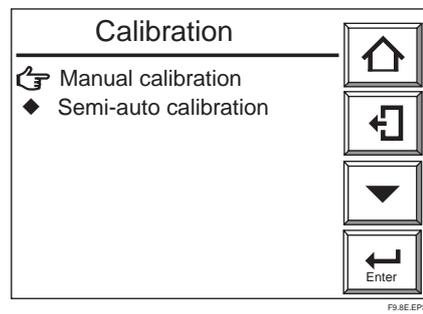

Figure 9.8 Calibration Display
- (1) Press the Setup key in the basic panel display to display the Execution/Setup display. Then select Calibration from the Execution/Setup display. The Calibration display shown in Figure 9.8 appears.